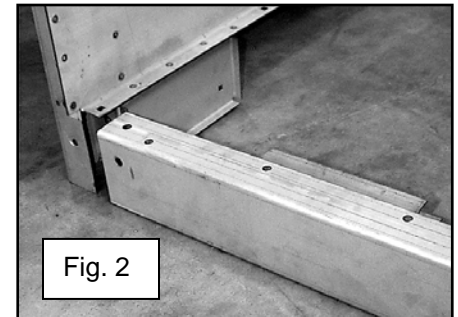

Fig. 2
3. Fit the rear cross sill inside the lower portion of the bed side rear stake pockets with the open side of the rear cross sill facing downward. The side with the brackets on the rear cross sill faces toward the front bed panel. See figure 2.